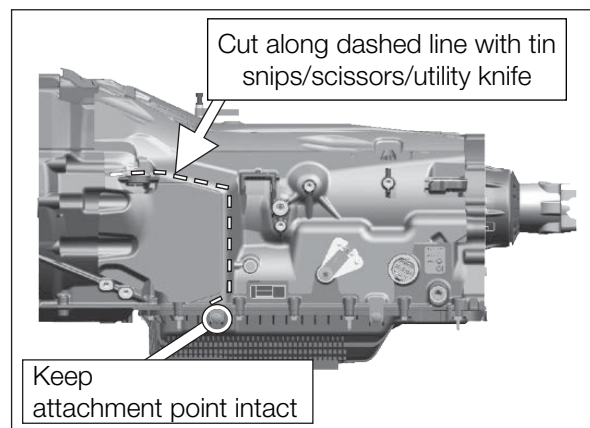

Figure 28
1. If NVH Cover is installed over PTO opening, cut away portion of the cover as described in Ford SVE Bulletin Q-300 (available at [www.fordbbas.com](http://www.fordbbas.com), (**Fig. 28**). Exercise caution when removing cover. Avoid any damage or severing of transmission, wiring, and fluid lines.